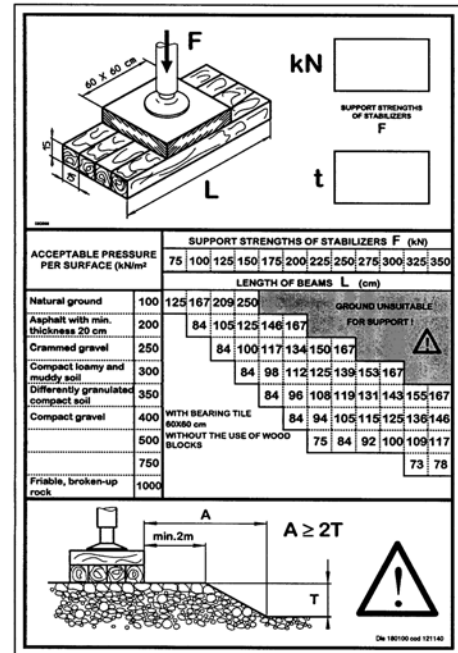

FIG. 43
- Vertical loads are indicated in **KN** (Kilo Newton) and **t** (ton) on a plate affixed to each stabilizer (fig. 43).
- Respect safety distances from wells, slopes, underground passages, foundation works, over-ground electric lines, etc. ($A \geq 2T$, fig. 43).
Maximum load on stabilizers is indicated on the relative plate (fig. 43) and can reach the following values: